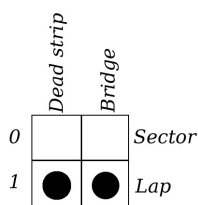

Figure 36: not allowed setting.
In figure 36 the last possible switch combination for sensor setting is shown. This combination would tell the *Track Interface* to consider both DS bridge and dead strip as lap counter sensors, but this is impossible. The *Track Interface* signals this wrong combination by making LED (3) and (4) flash until the user changes the setting. Moreover, during this situation the *Track Interface* does not carry out any function.